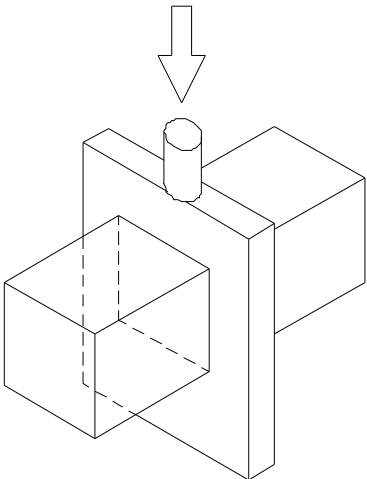

FIG. 4-1
- 1. SPARKING FOR CUTTING (FIG. 4-1)